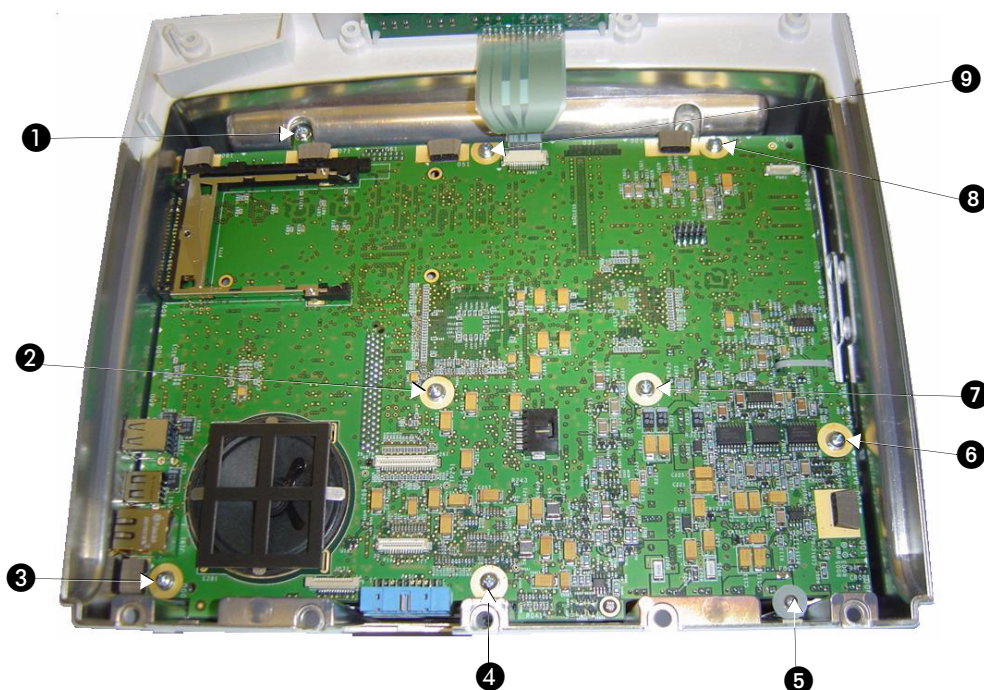

Figure 4-10: Nine screws holding the CPU PCBA to the chassis
- 3 Remove the nine screws that hold the CPU PCBA to the chassis (refer to *Figure 4-10*).